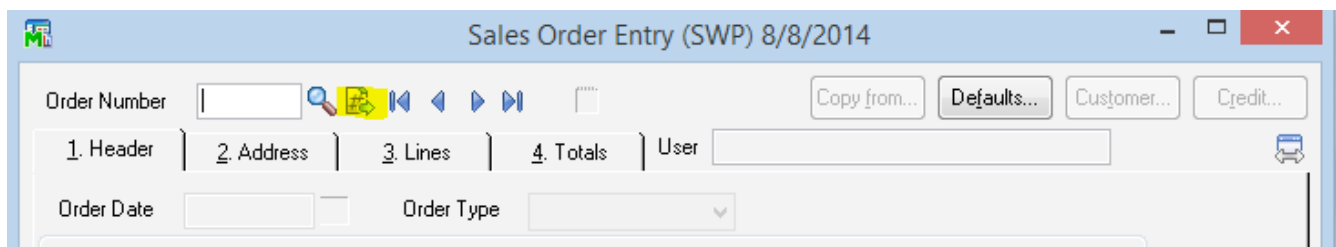

Figure 2.3
**Step Four:** Click the Next Order No. icon next to the magnifying glass (see Figure 2.3)